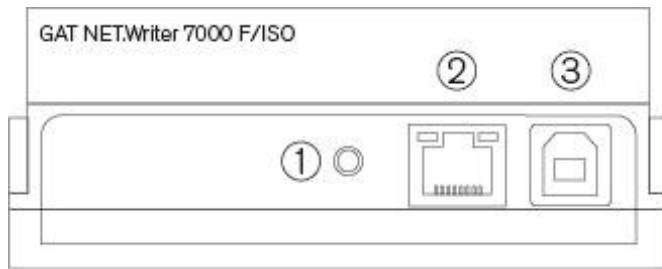

Figure 4.7 – Reset button
- ▶ Keep the RESET button (1 in Figure 4.7) pressed in for 5 seconds.
- ▶ Reconnect the power supply while holding the RESET button (1 in Figure 4.7) pressed in.